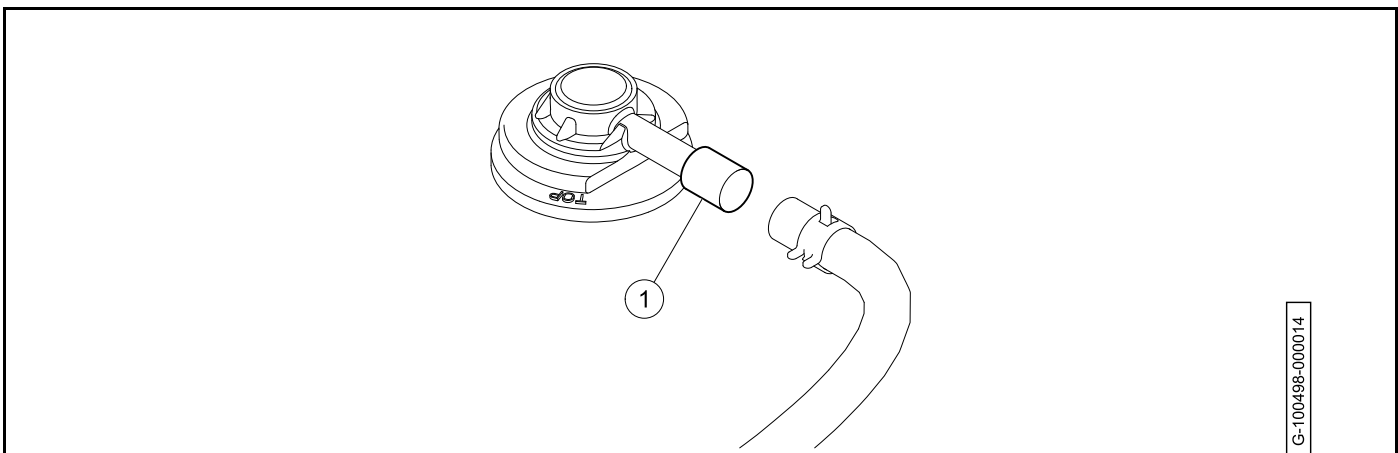

Figure 3-1 Fuel Tank Vent Nipple
11. Plug the fuel tank vent nipple with a slip-on vinyl cap (1) (**Figure 3-1, Page 3-4**). Make sure that the connection is air tight.